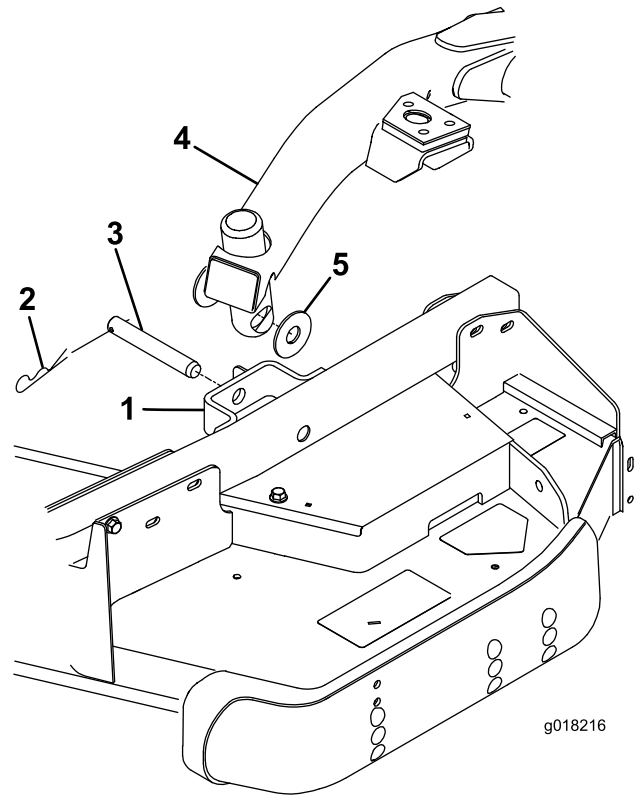

Figure 5
- Remove the 2 thrust washers, clevis pin and hairpin cotter from each castor arm bracket on the cutting unit (Figure 5).
- Press the lift switch forward to the FLOAT position. Push a lift arm down until the holes in the lift arm line up with the holes in the castor arm bracket (Figure 5).
- Secure the lift arm to the castor arm with the 2 thrust washers, a clevis pin and a hairpin cotter. Position the thrust washers between the lift arm and the castor arm bracket (Figure 5) and insert end of cotter pin into the slot in the castor arm tab to retain cotter pin.